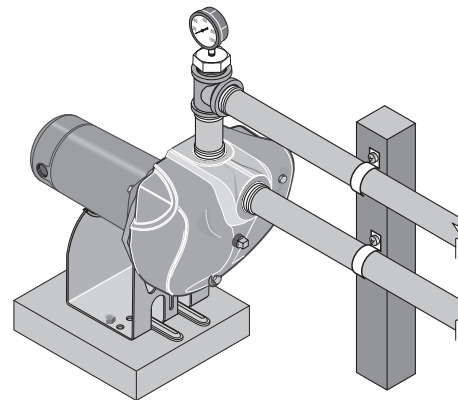

Figure 5: Independently Support All Piping Attached to Pump
3. Support all piping connected to the pump (Figure 5).